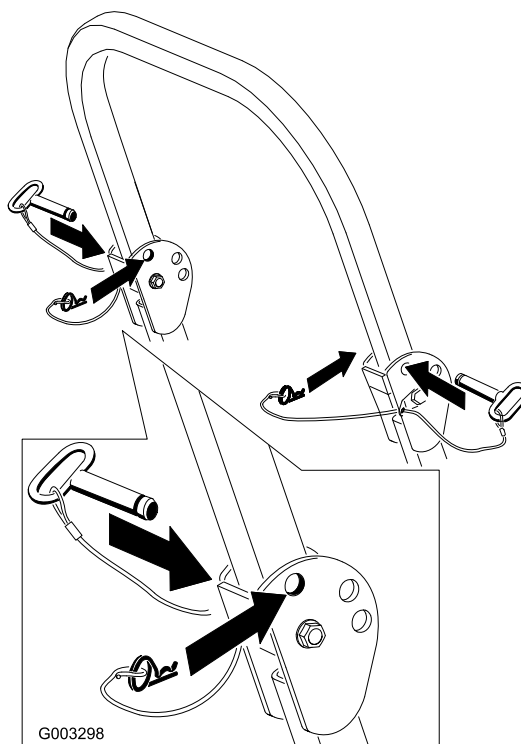

Figure 7
1. To lower the roll bar, remove the hairpin cotter pins and remove the two pins (Figure 7).
3. Install the two pins and secure them with the hairpin cotter pins (Figure 7).
4. To raise the roll bar, remove the hairpin cotter pins and remove the two pins (Figure 7).
5. Raise the roll bar to the upright position and install the two pins and secure them with the hairpin cotter pins (Figure 7).